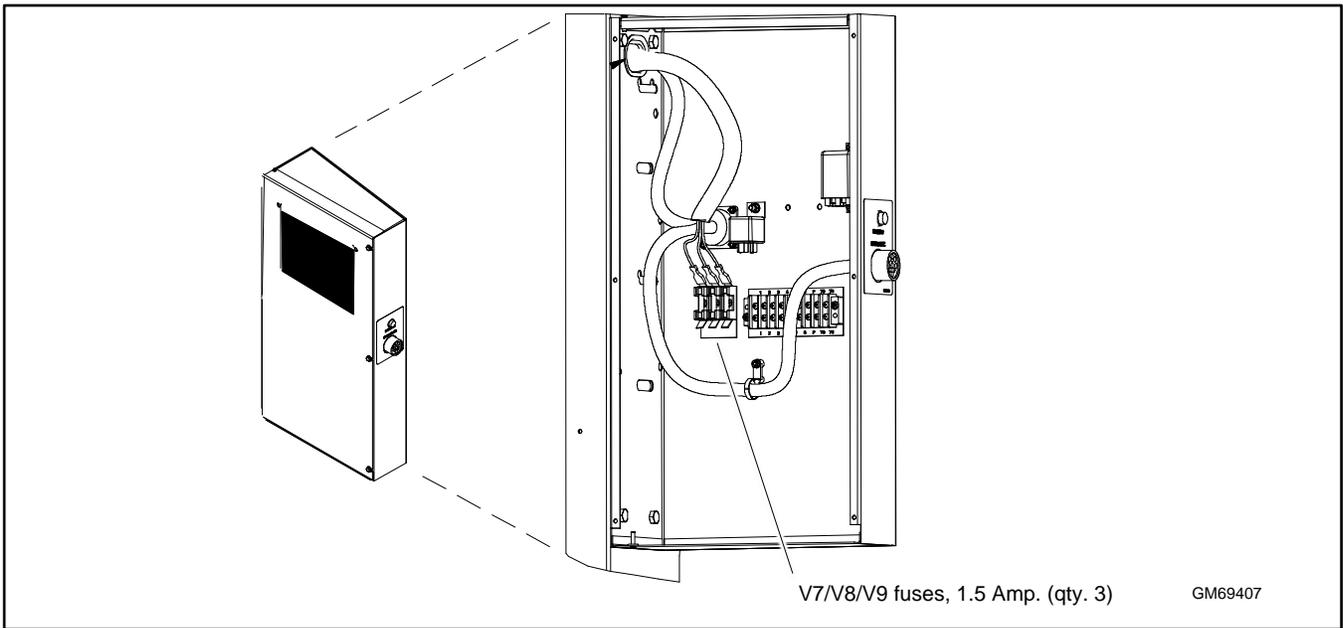

Figure 8 AC Circuit Fuses in Control Box
**AC Circuit Fuses (TB5).** Fuses are located inside the generator set control box. See Figure 8.